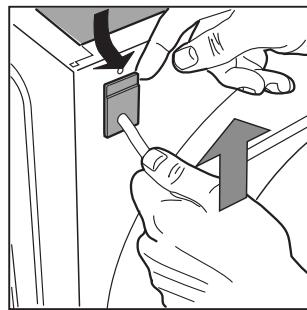

Fig. 5
- 4. Remove the upper part of the cable slightly from the back panel of the appliance, pull the power supply cable upwards and take it out** [fig. 5].